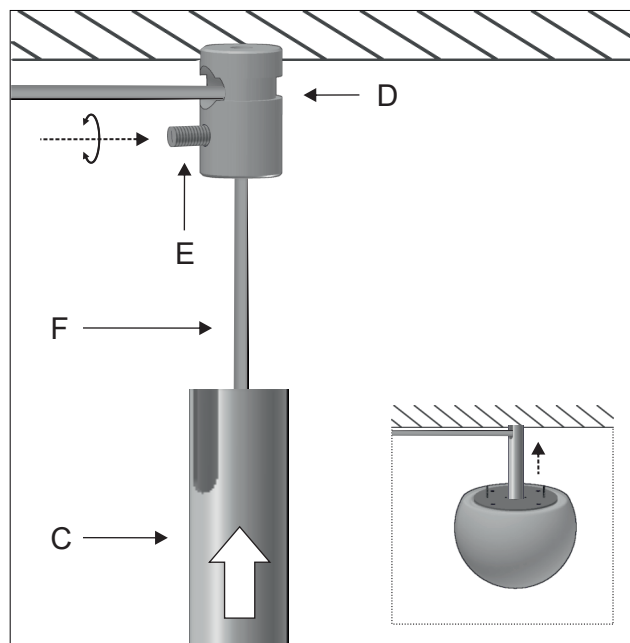

Figure 4
- 4 - Unscrew the allen screw (E) from the cable holder without removing it. Insert the shade cable (F) through the bottom of the cable holder (D) and pull it through the side hole. Tighten the cable (F) until the stem (C) is completely pressed against the ceiling and screw the allen screw (E) again to secure the cable. Figure 4